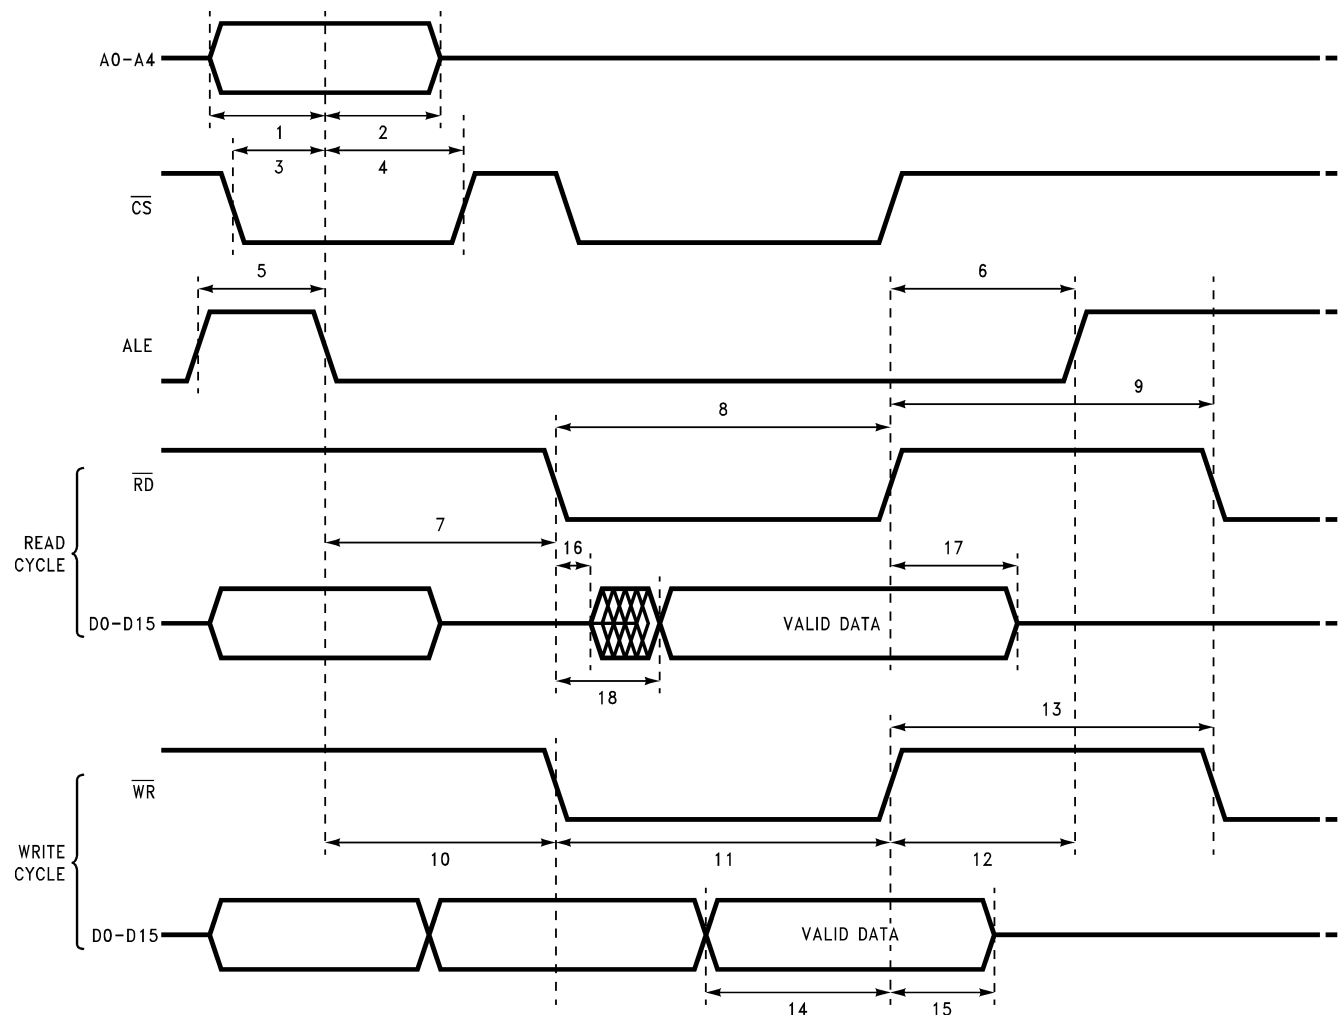
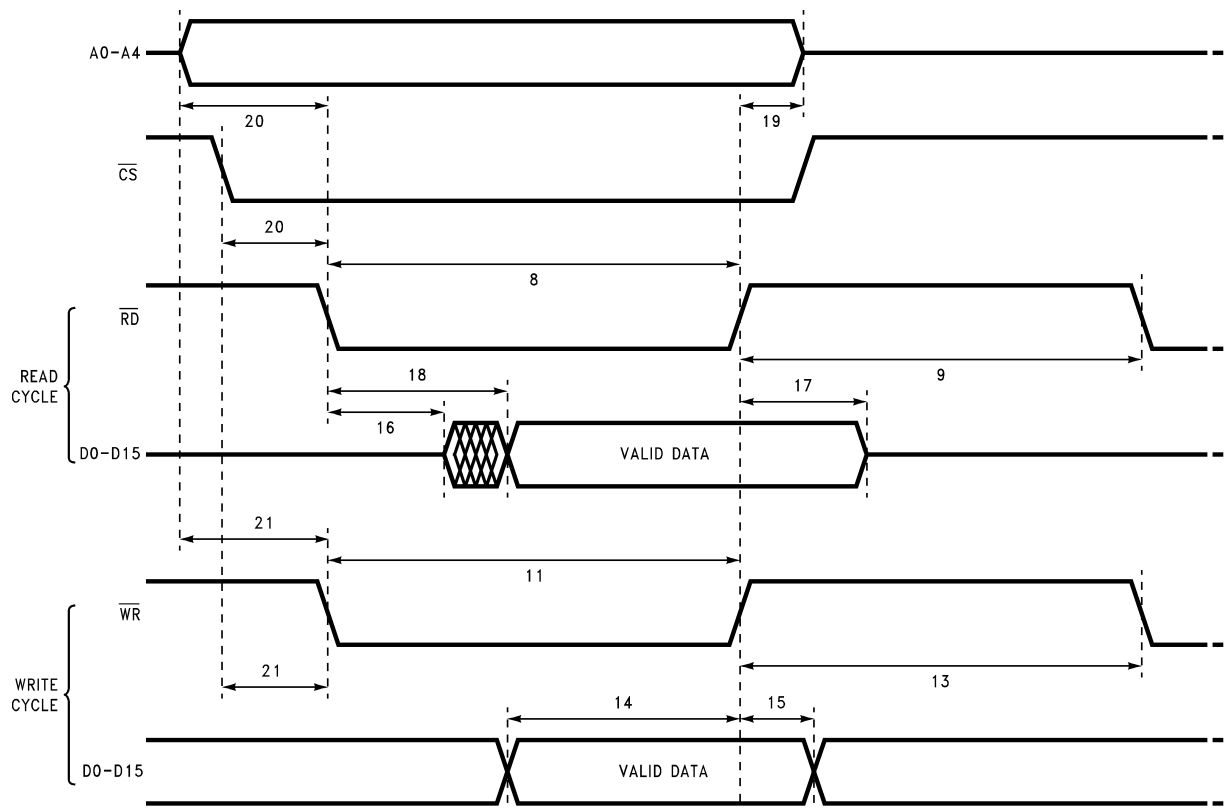

Figure 28. Multiplexed Data Bus
Figure 29. Non-Multiplexed Data Bus (ALE = 1)
- ALE** Address Latch Enable input. It is used in systems containing a multiplexed data bus. When ALE is asserted **high**, the LM12L458 accepts information on the data bus as a valid address. A high-to-low transition will latch the address data on A0–A4 and the logic state on the $\overline{\text{CS}}$ input. Any changes on A0–A4 and $\overline{\text{CS}}$ while ALE is low will not affect the LM12L458. See Figure 28. When a non-multiplexed bus is used, ALE is continuously asserted **high**. See Figure 29.